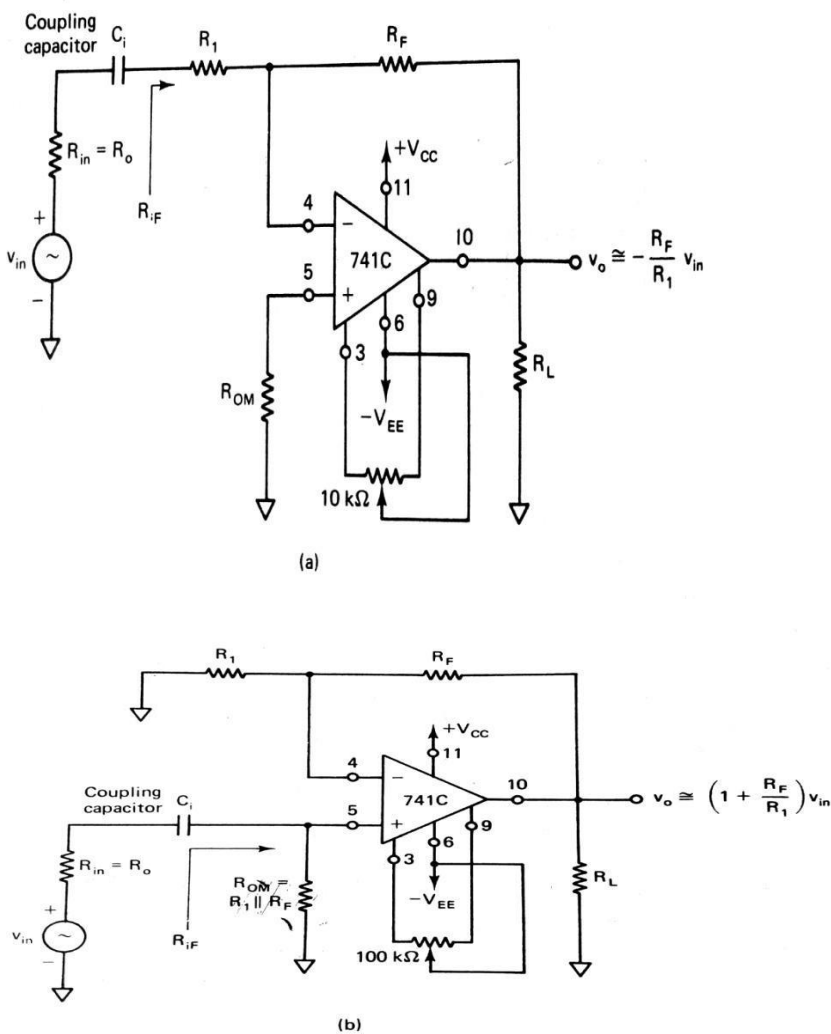

Figure 7-3 (a) AC inverting amplifier. (b) AC noninverting amplifier. (Pin numbers are for the 14-pin DIP.)
- The figure 7-3 shows the AC inverting and non-inverting amplifiers with coupling capacitors.
Example : in the circuit of Fig 7.3(a) $R_{in}=50\Omega$, $C_i= 0.1 \mu F$, $R_1=100 \Omega$, $R_f= 1 K\Omega$, $R_l=10K\Omega$ and supply voltages = + or – 15 V. Determine the bandwidth of the amplifier